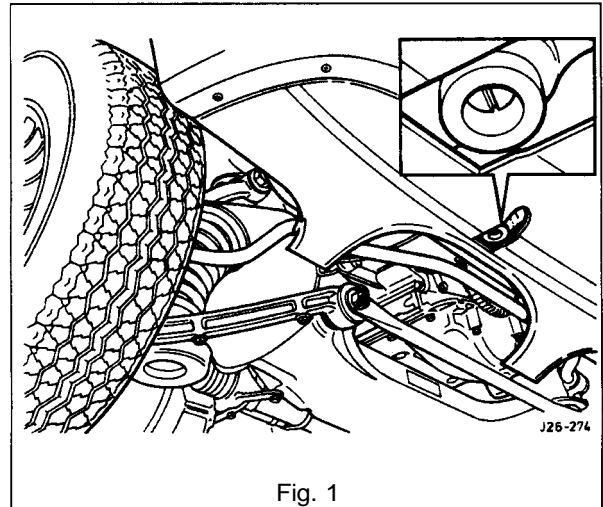

Fig. 1
The configuration of the cooling system is shown in Fig. 1. The main coolant flows, with the system at normal operating temperature (i.e. with the engine thermostats open), are indicated by arrows.
- Place a drain tray in position under the radiator drain plug (Fig. 1).